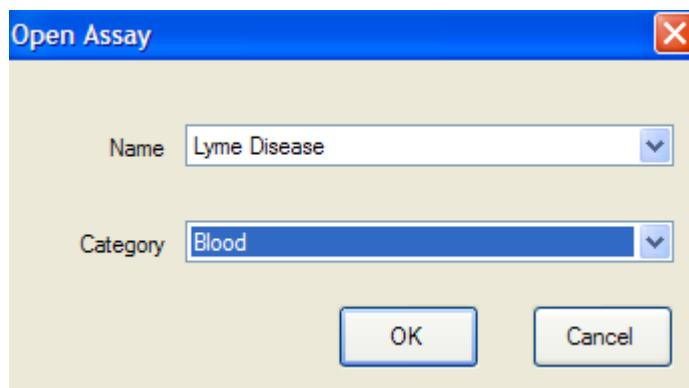

Figure 5-47: Open Assay File Dialog Box
1. Select **File > Assay Editor** from the main Matrix menu bar. Select **File > Open** from the Assay Editor menu bar. The **Open Assay** dialog box is displayed (Figure 5-47).